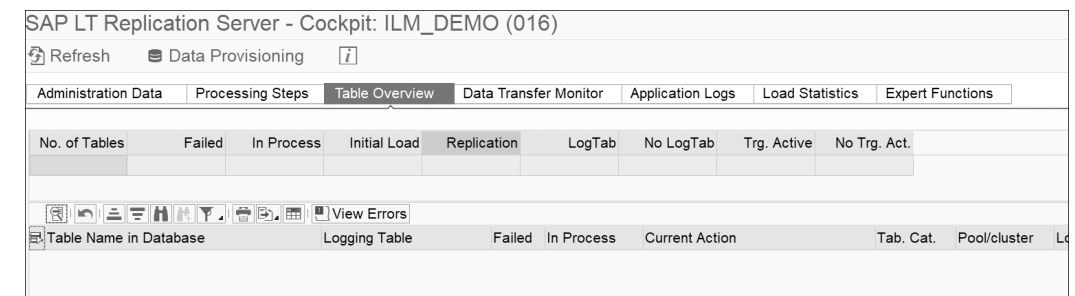

Figure 8.12 Transaction LTRC (Data Provisioning)
3. Select the **Table Overview** tab (if it isn’t already displayed), and click the **Data Provisioning** button at the top (see Figure 8.12).